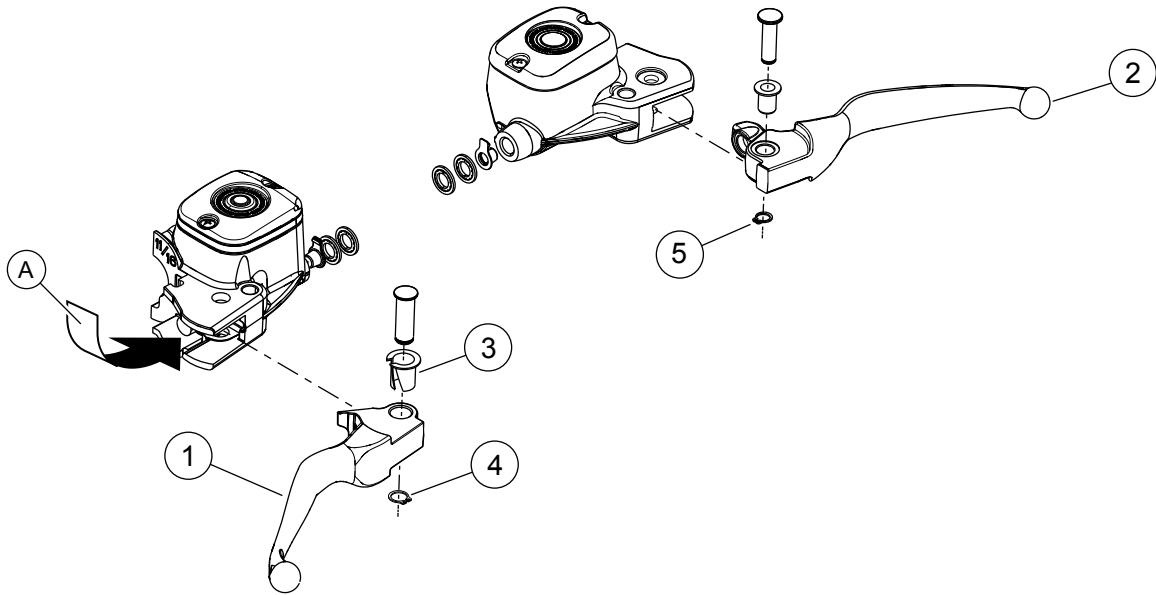

Figure 1. Service Parts: Hand Lever Kit
See Figure 1 and Table 1.
1. See the Figure 1 and the FRONT BRAKE MASTER CYLINDER section of the service manual. Remove the retaining ring (4) from the groove in the pivot pin and discard retaining ring.